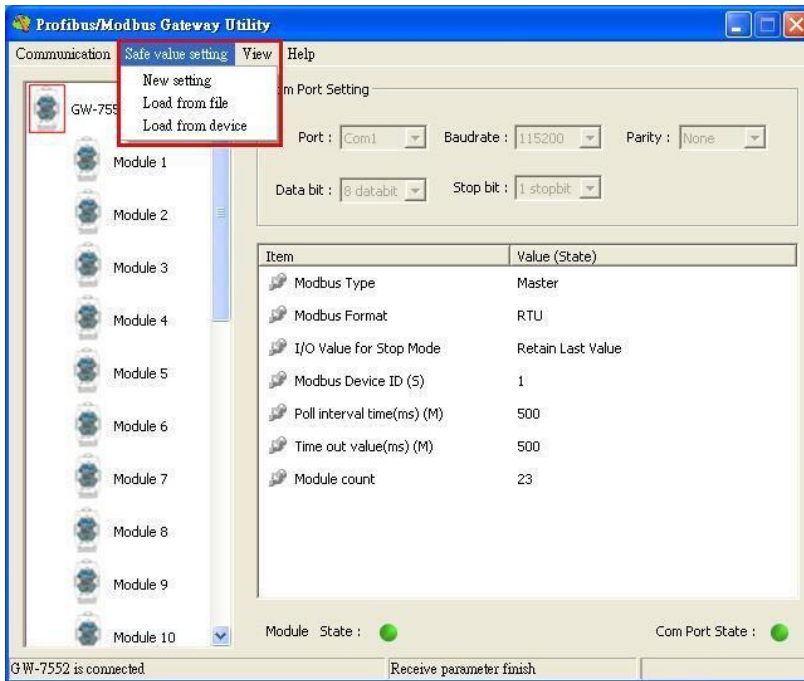

Figure 60 The menu of safe value setting
There are 3 kinds of safe value setting. They are (1) Open a new setting 、(2)Load from file 、(3)Load from device, as shown in figure 60.